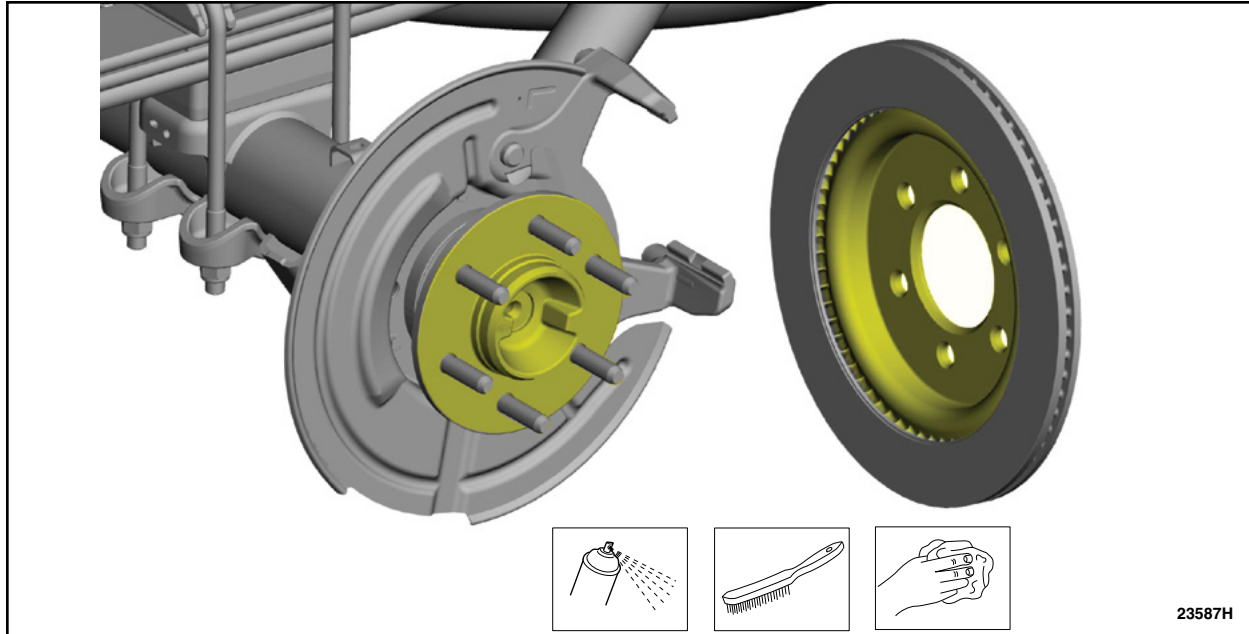

FIGURE 7
11. On both sides, clean the brake disc mating surfaces using a wire brush and the specified material. See Figure 7. Material: Motorcraft® Metal Brake Parts Cleaner / PM-4-A, PM-4-B.